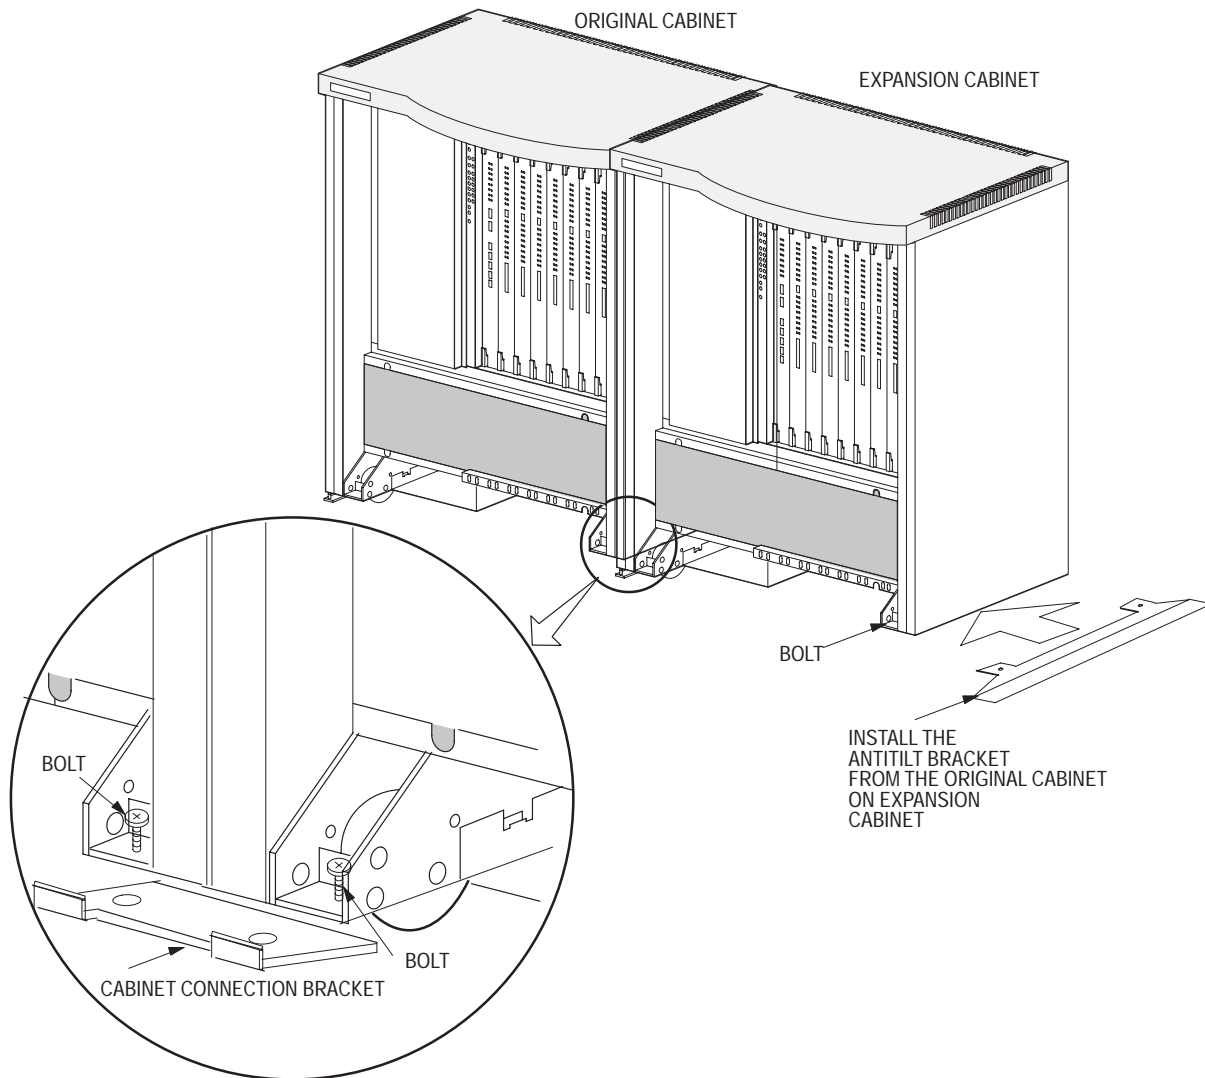

Figure 12-10. Location of the Cabinet-Connection Bracket.
6. When the **ENTER BOOT COMMAND:** prompt appears, turn off the power to the server by switching the main-power circuit breaker on the back of the power distribution tray to the OFF position (0).
- e. From the front of the cabinets, use the cabinet-connection bracket and bolts to connect the cabinets, as shown in Figure 12-10. The upturned corners on the bracket must be flush against the cabinets when you tighten the bolts. Repeat at the rear of the cabinets.
- f. Install the antitilt bracket removed in step 7b on the expansion cabinet (Figure 12-10). Tighten the bolts securely.